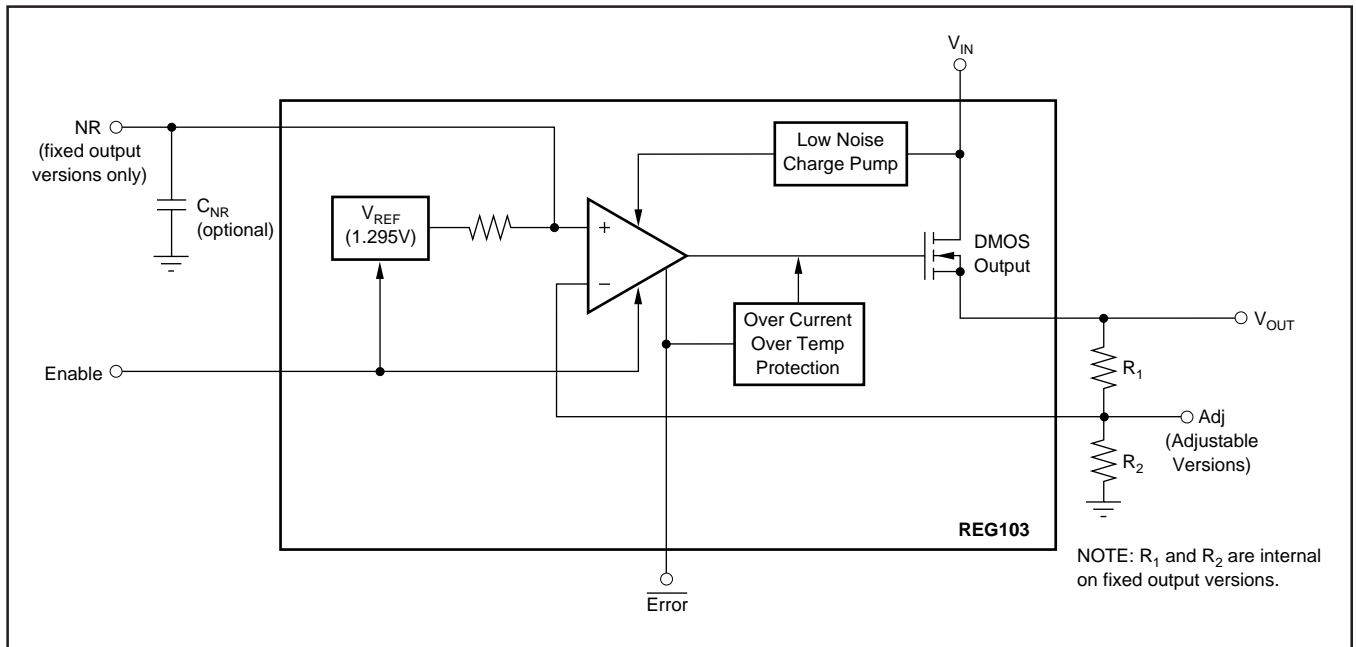
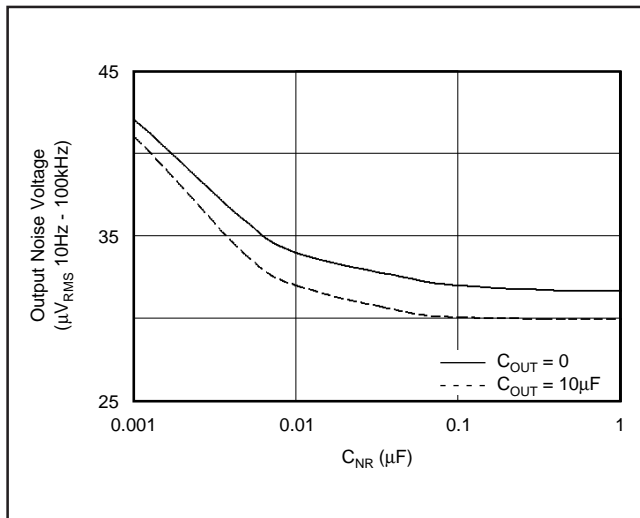

FIGURE 7. Block Diagram.
FIGURE 8. Output Noise versus Noise Reduction Capacitor.
Connecting a capacitor, C_{NR} , from the Noise Reduction (NR) pin to ground, can reduce the output noise voltage. Adding C_{NR} (see Figure 7) forms a low-pass filter for the voltage reference. For $C_{NR} = 10\text{nF}$, the total noise in the 10Hz to 100kHz bandwidth is reduced by approximately a factor of 3.5. This noise reduction effect is shown in Figure 8.